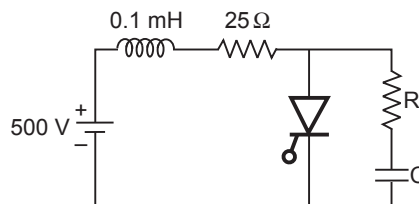

Fig. 2
c) Calculate the values of snubber components R and C in Fig. 2 to protect SCR from reapplied dv/dt , if dv/dt rating of SCR is $100 \text{ V}/\mu\text{sec}$. (Refer example 5.3.1) [4]